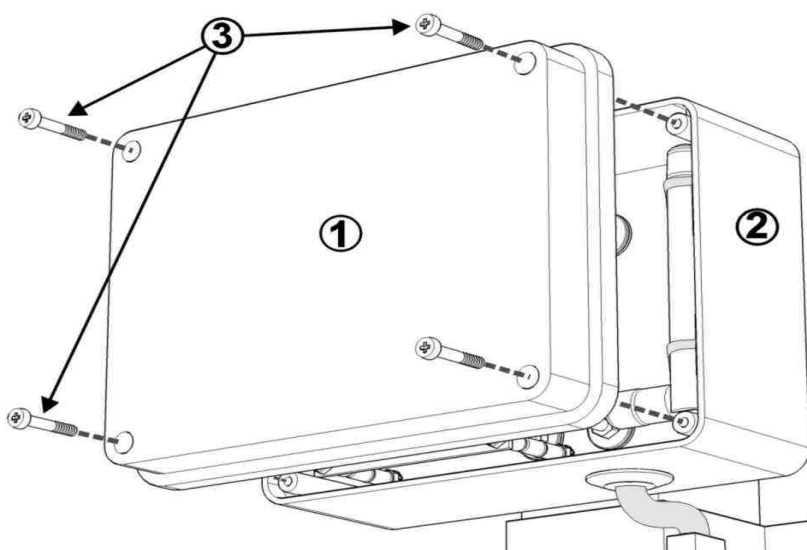
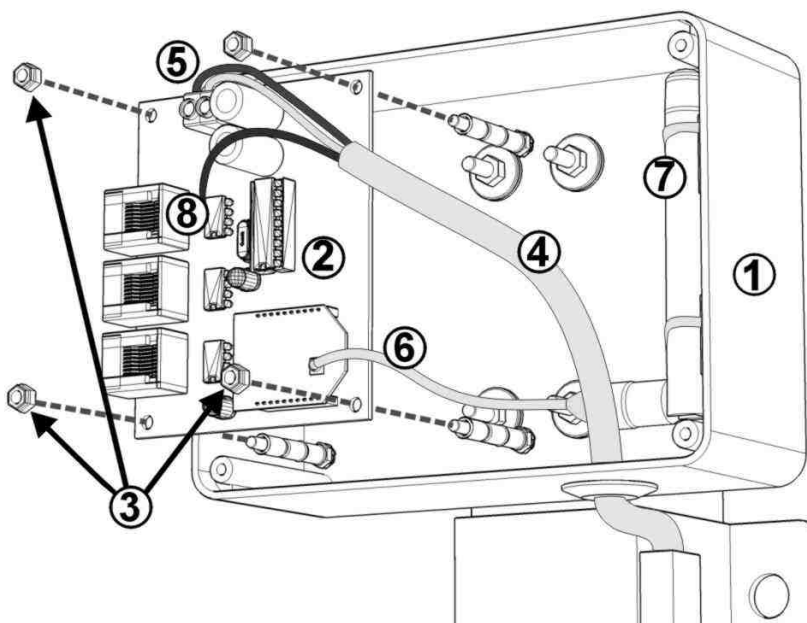

Fig. 4: Opening the cover
Fig. 5: Control board
3. Open the Radio Receiver cover and check the red LED in the Radio Receiver (Fig. 4 and Fig. 5):
2. Remove the cover by unscrewing the 4 front closing screws (Fig. 4).
3. Remove the antenna cable from the connector on the radio module and then, with a flathead screwdriver, disconnect the 3 wires from their respective terminals, taking note of their position (Fig. 5).
4. Remove the fastening nuts and extract the control board from its place (Fig. 5).